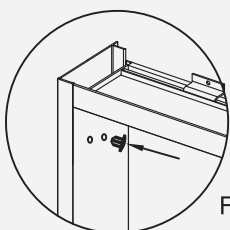

Fig 18
3. Fill the remaining holes with hole plugs (3) (Fig 18). Fill the rest of the shelf clip holes (14)